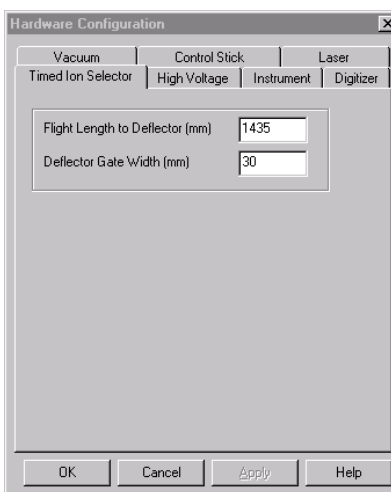

Figure 2-17 Timed Ion Selector Configuration
2. Click the **Timed Ion Selector** tab to display the Timed Ion Selector page (Figure 2-17).